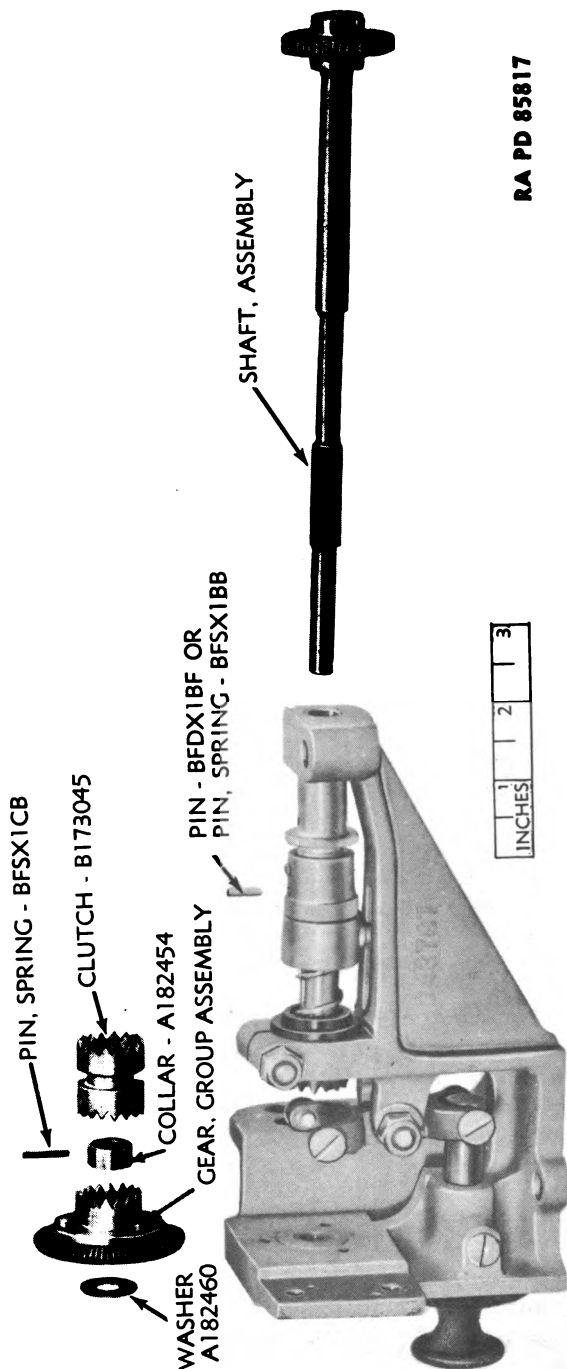

Figure 136 — Disassembly of Rate Setting Clutch
d. If the clutch is disassembled for cleaning (figs. 136 to 142), the stop nut and its screw must be replaced in the same relative posi-